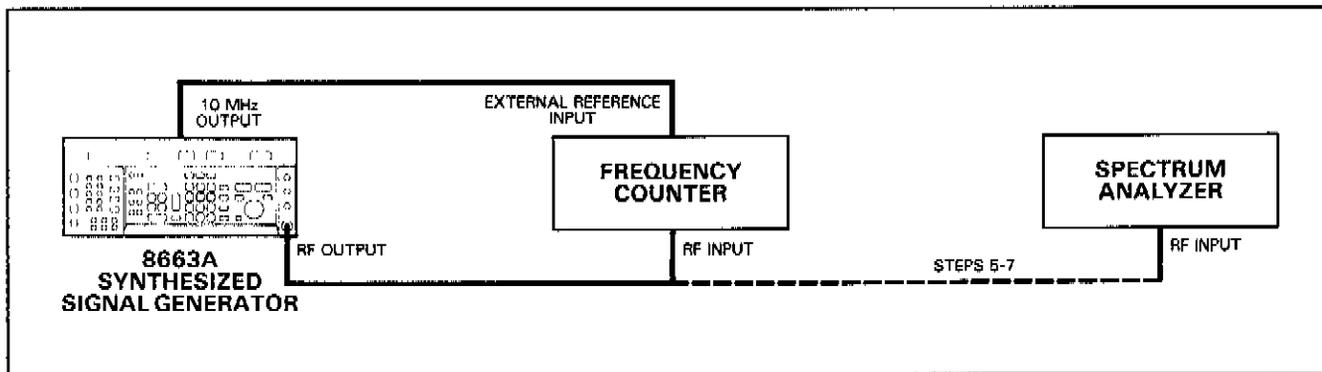

Figure 4-1. Operation Verification Amplitude and Frequency Test Setup
1. Connect the instruments as shown in Figure 4-1 and apply power.
14. Turn off the Signal Generator's  $\Phi$ M modulation. Set the Generator's RF frequency to 640 MHz and the output amplitude to +10 dBm. Reconnect the spectrum analyzer as shown in Figure 4-1 and set the span to 20 kHz/division with a center frequency of 640 MHz. Center the signal on the spectrum analyzer's display and adjust the signal peak to the spectrum analyzer's amplitude reference level. Set the BPSK modulation frequency to 10 kHz with an increment value of 1 kHz. Increment the modulation frequency to 99 kHz using the Increment up key. Verify that the center frequency is greater than 20 dB down from the reference level.